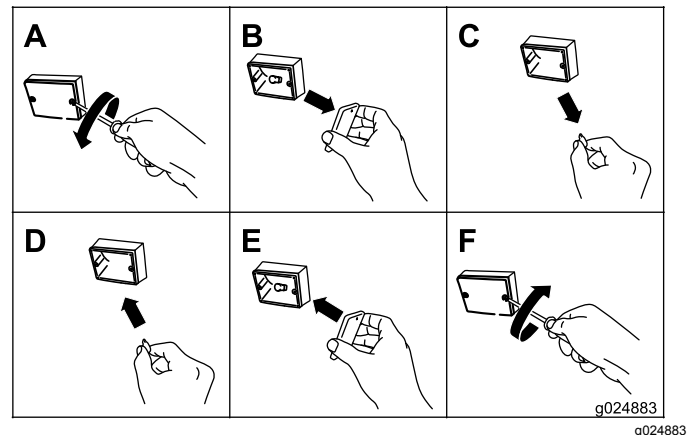

Figure 55
1. Using a screwdriver, remove the 2 screws from the small rectangular, amber lens on the front of the light (Figure 55).
2. Remove the amber lens (Figure 55).
3. Pull the bulb out of the socket (Figure 55).
4. Insert a new 193 bulb into the socket (Figure 55).
5. Install the amber lens and the 2 screws (Figure 55).